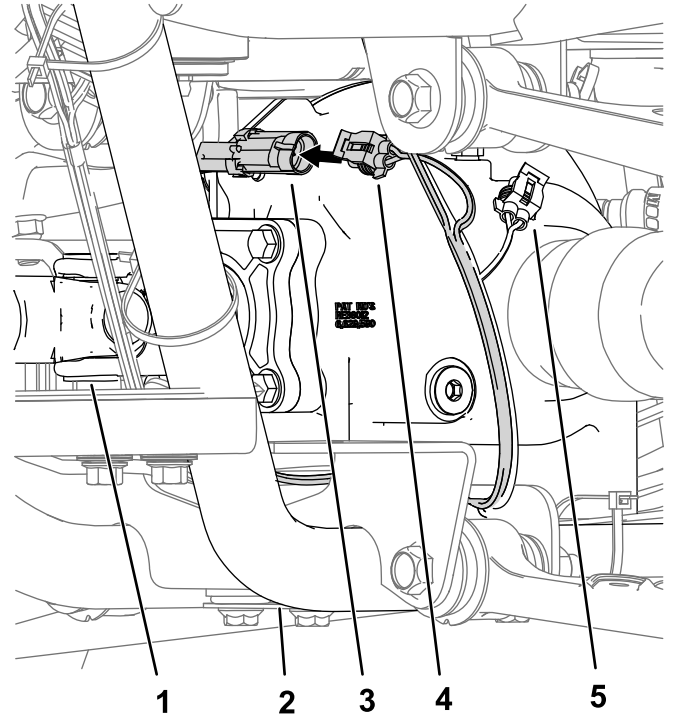

Figure 13
- Install the remaining socket on the kit wire harness to the connector on the front differential assembly (Figure 13).